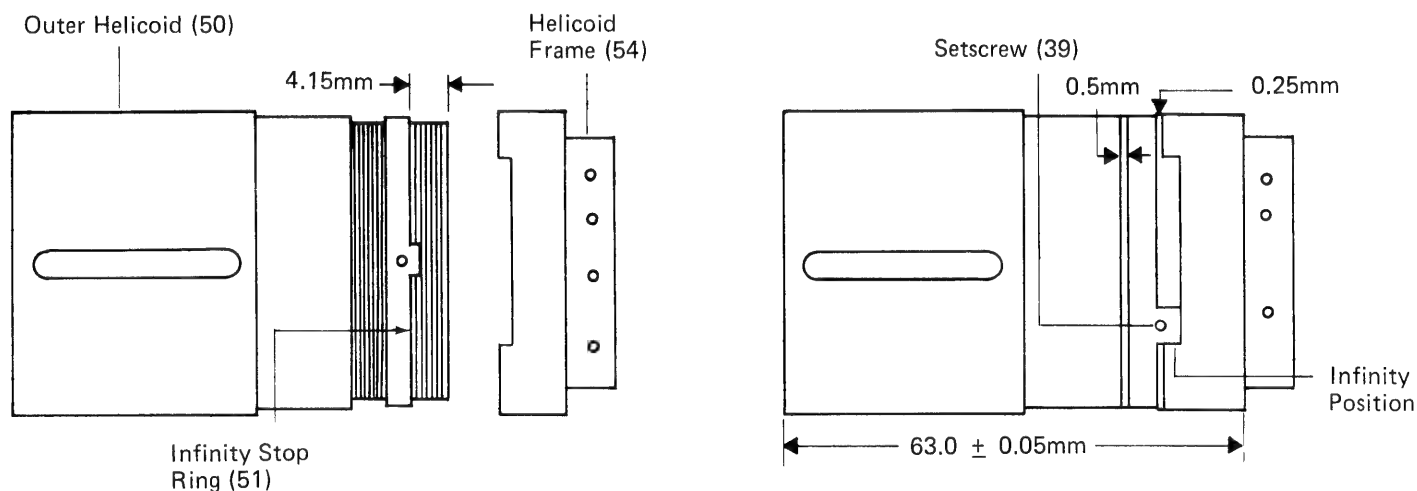

Figure 3-9. Assembly of Infinity Stop Ring and Helicoid Frame on Outer Helicoid
1. Thread the infinity stop ring (51) onto the outer helicoid (50) sixteen revolutions to a point where the distance from the edge of the outer helicoid to the face of the stop ring (not the stop lug) is 4.15mm. (See Figure 3-9.)
2. Start threading the helicoid frame (54) onto the outer helicoid with the cutout in the helicoid frame engaging the stop lug on the infinity stop ring.
3. After a few turns, check the spacing between the helicoid frame and the stop ring. The spacing must be 0.25mm when the stop lug is against the end of the cutout as shown in Figure 3-9. If it is not, repeat steps 1 and 2 above.
5. With the stop lug of the infinity stop ring against the cutout in the helicoid frame and the dimensions as specified above, tighten the two setscrews (39) in the infinity stop ring.